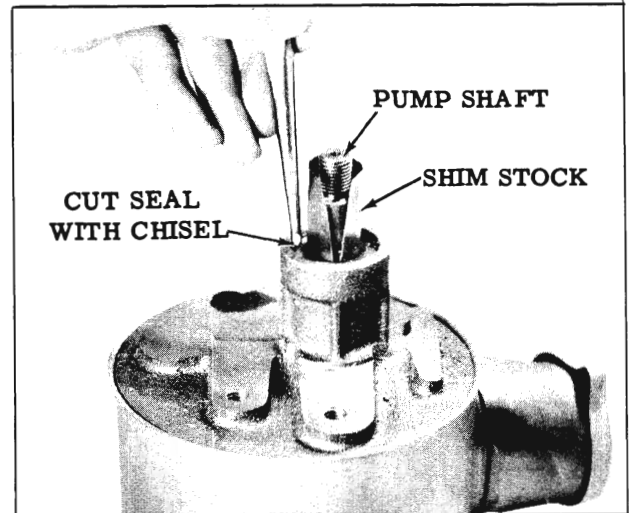

Fig. 4-22 Cutting Pump Seal
1. With the pump pulley removed, bend a piece of .005" shim stock (approximately 2-1/2" long) into a cylindrical shape, then push the shim stock past seal until it bottoms in pump body. (Fig. 4-22)
2. Cut metal body of seal with a small chisel as shown in Fig. 4-22.